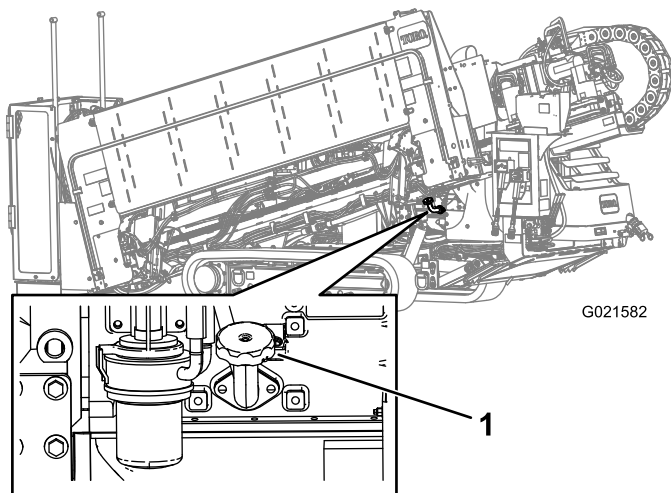

Figure 123
- A. Remove the fill cap (Figure 123) and add oil until the level reaches the High mark. **Do not overfill.**